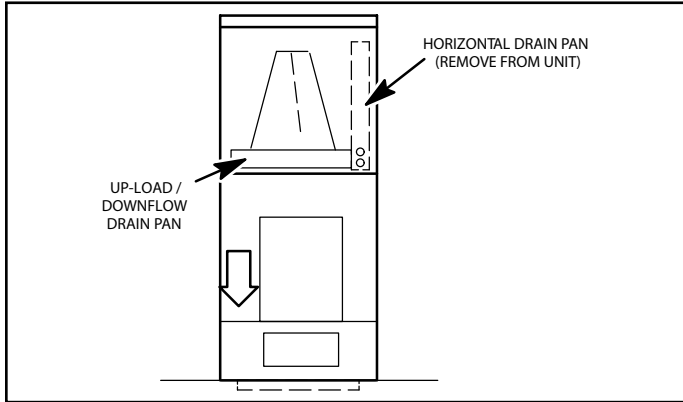

Figure 6. Downflow Discharge Position
2. For best efficiency and air flow, remove the horizontal drain pan from the units in downflow positions as illustrated in Figure 6.
3. Rotate cabinet 180° from the upright position. See Figure 6. You may need to first remove the blower assembly to lighten the cabinet for lifting.